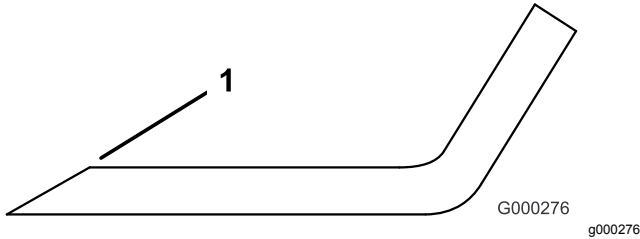

Figure 118
3. Examine the cutting edges of all the blades and sharpen the cutting edges if they are dull or nicked (Figure 118).
Note: Sharpen only the top of the cutting edge and maintain the original cutting angle to ensure sharpness (Figure 118). The blade will remain balanced if you remove the same amount of metal from both cutting edges.